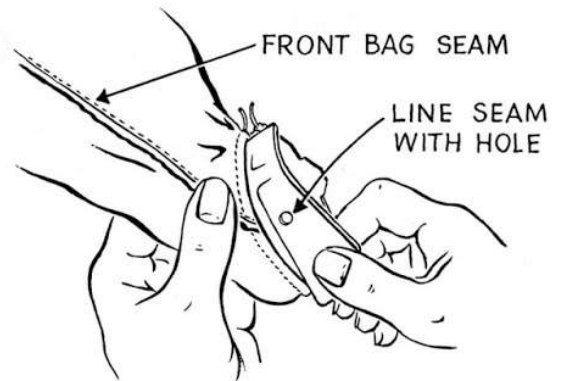

Fig. 2
- With the bag turned inside out, place the seam which is on the front of the bag in line with the round hole in the bag ring. See Fig. 2. The bag throat fits around the bag ring into a groove provided for this purpose in the bellows.